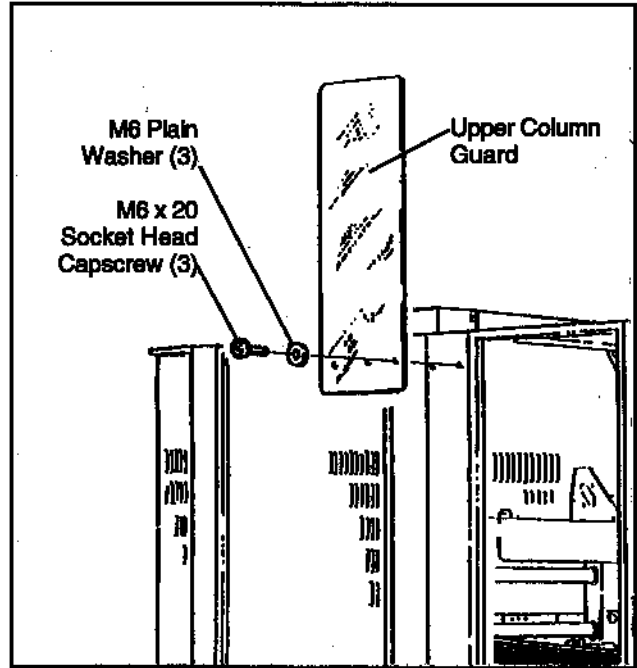

Figure 2-1 – Upper Column Guards
2. Remove four (4) brackets that secure machine legs to shipping pallet.
4. Unpack upper column guards and install as shown in Figure 2-1